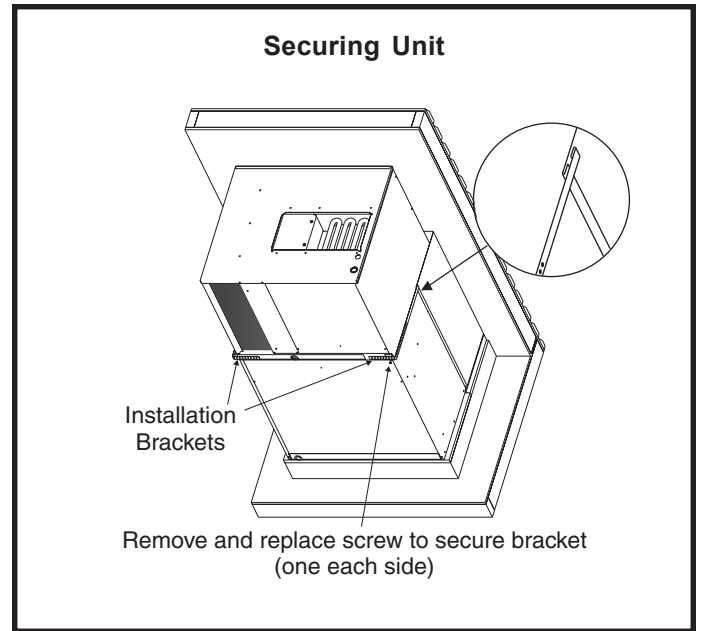

Figure 4
- Use the two installation brackets to secure the unit to the wall sleeve (see Figure 4). The units are shipped with the brackets placed in the return air compartment. Hook each bracket into the front edge of the wall sleeve side. Position the bracket so it can be bent around the front corner of the unit. Remove one of the two screws in that position on the unit. Line up one of the holes in the installation bracket with the screw hole and attach the bracket to the unit with that screw. Make sure to fasten tight enough that the seal is maintained. Trim off excess bracket if applicable.